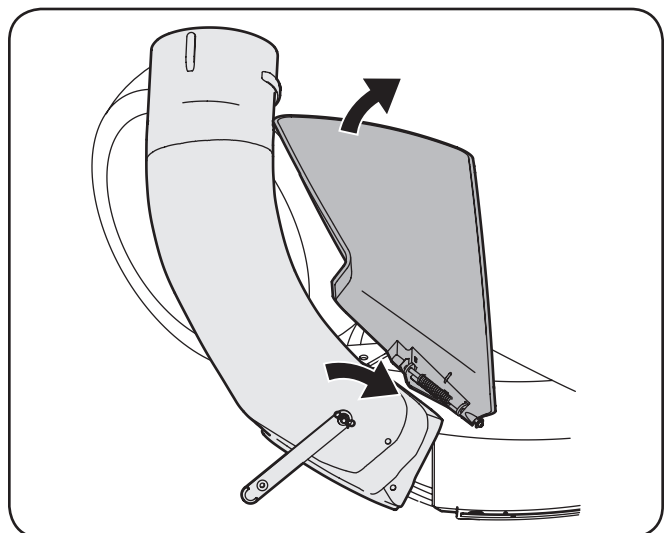

Figure 4-21
11. With the tractor's discharge chute raised up and held open, install the chute elbow over the chute opening by placing the top, rear edge of the chute elbow over the rear of the deck opening, then pivoting the chute elbow down and over the chute opening. See Fig. 4-21.